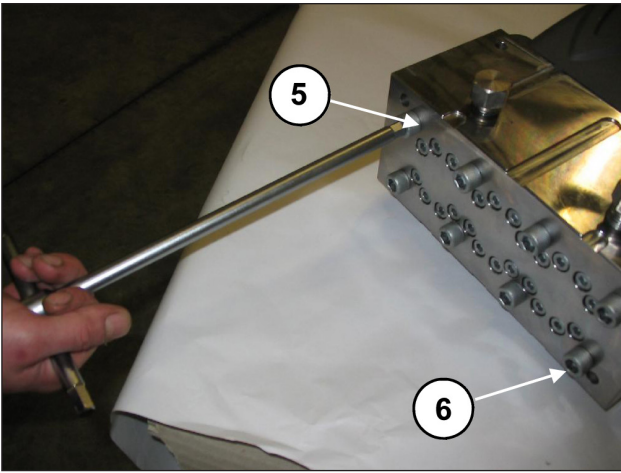
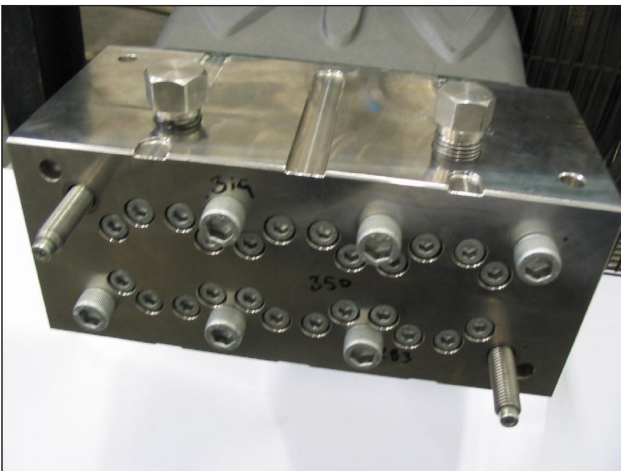

Fig. 35
Fig. 36
- Unscrew the M12x260 head fixing screws No. 5 and No. 6 as shown in Fig. 35 replacing them with two service pin-screws (code 27508200) as shown in Fig. 36, then remove the remaining screws.